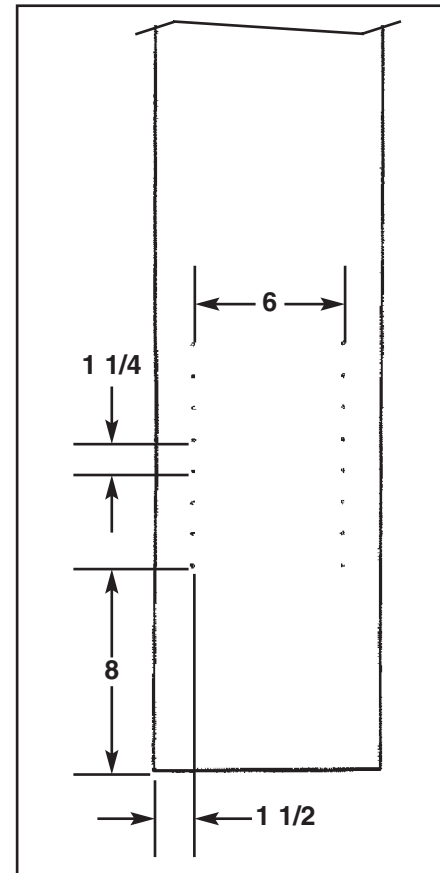

Figure 6
2. Drill 3/16" holes (for shelf supports) on both sides of boards (H) and on the inside of boards (D). Refer to Figure 6.